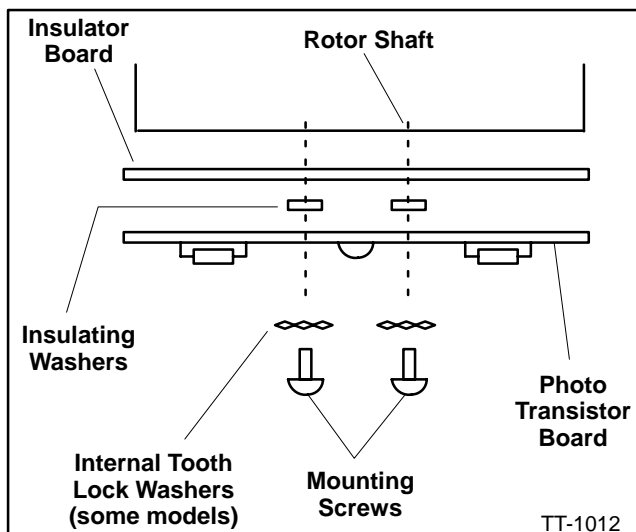

Figure 8. Photo Transistor Board Mounting
13. Attach photo transistor board (B-292902), two insulating washers (243321), and insulator board (257850) to end of rotor shaft using two screws (X-117-5) and washers (X-22-9). Torque to 10 in. lbs. (1.1 Nm) maximum. See Figure 8 for component sequence.